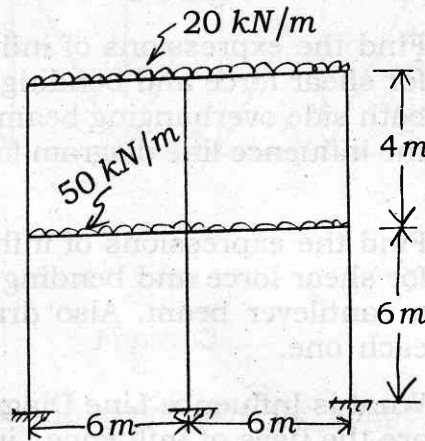

Figure 1
1. (a) Analyse the building frame using approximate method as shown in Figure 1. Also draw the BMD. 10